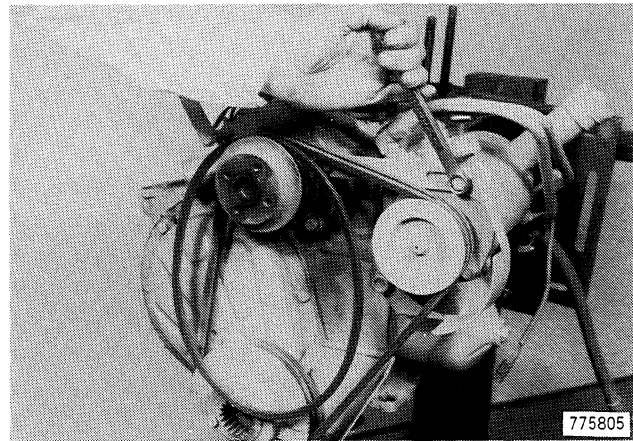

Figure 59
3. Loosen the cap screw in the steering pump adjusting strap, Figure 59.